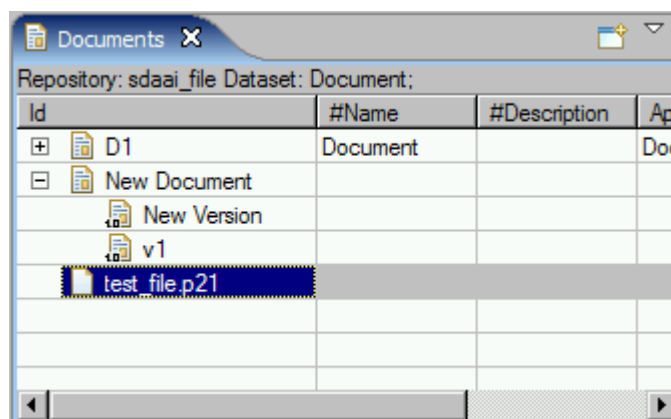

Figure 3. Added file as a root element in the tree
- The selected file appears in the tree (see Figure 3).